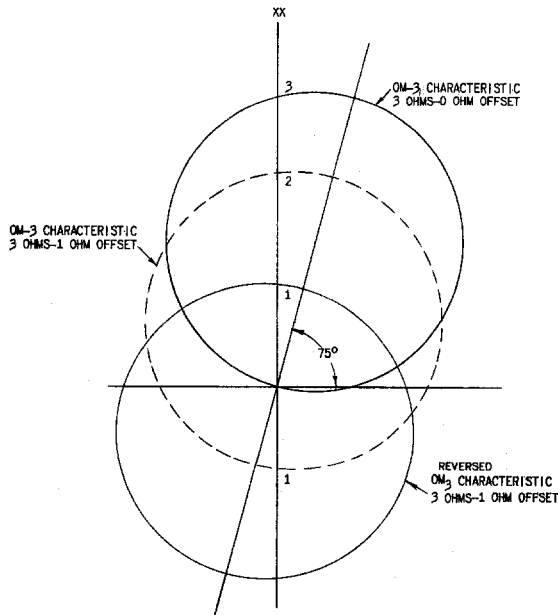

Fig. 11 (0165A7716-0) Characteristic of the OM-3 Unit for Relay Type GCXY11A
3. Connect the offset transactor in the circuit and check the unit reach with the #3 taps at 100 percent. Under these conditions the unit characteristic with the offset is a circle three ohms in diameter with its center on the 75° line one-half an ohm from the origin in the positive direction (see Fig. 11). By drawing this operating characteristic carefully on polar coordinate paper the impedance at which the relay should operate at any selected impedance angle can be determined graphically. To do so, draw the test impedance at its correct angle on the offset unit characteristic. The point at which this impedance line intersects the characteristic will establish the maximum impedance value (Z_R) which will permit the unit to operate with 100% unit tap setting.